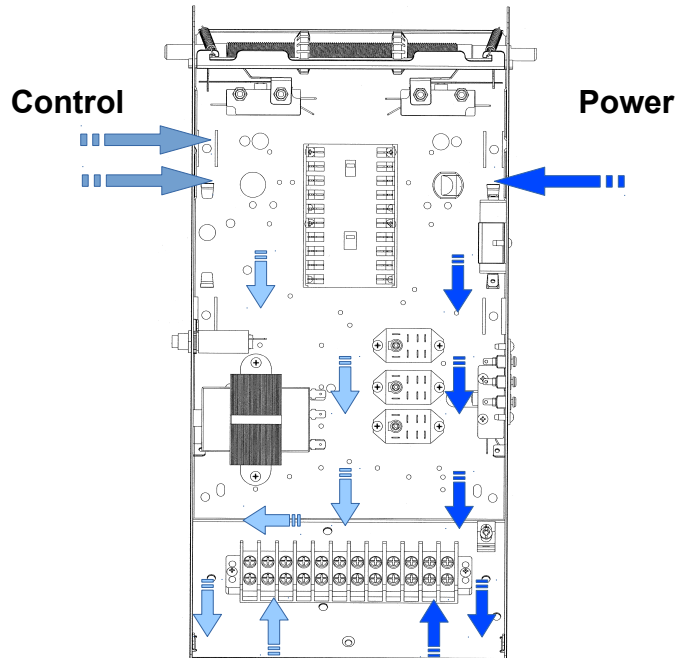

Figure 7 - Low Voltage (Controls) and High Voltage (Power) Connections
1. Route the power line wire from the right of the control box, as shown in Figure 7.
2. Route all low voltage control wires from the left of the control box, as shown in Figure 7. **KEEP LOW VOLTAGE WIRES SEPARATE FROM LINE VOLTAGE WIRES.**